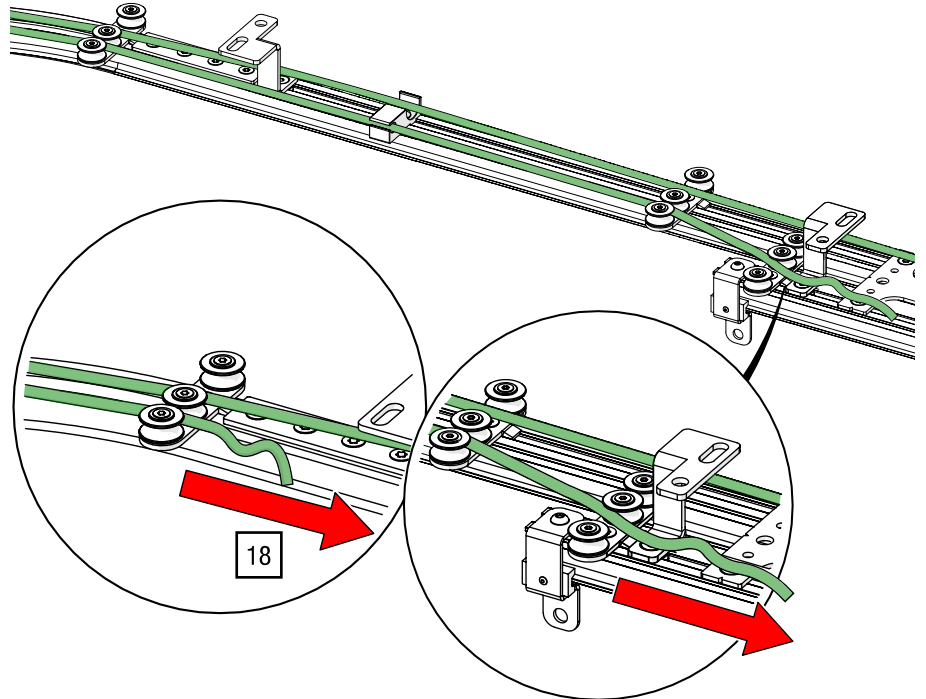

Fig. 99: Top cord operation – Guide the end of the cord back onto the first track section using return pulleys
18. Only for double track systems: guide the cord end through the cord guides back onto the first track section (see Fig. 99).